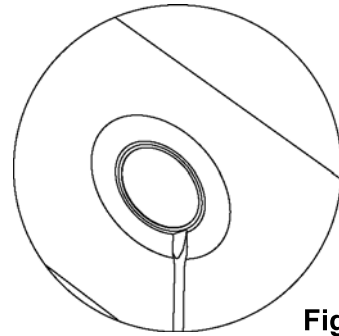

Fig 4
2. With the cabinet doors open, use a small thin flat-headed screwdriver, or similar implement, to carefully remove the shade retaining ring (see Figure 4).